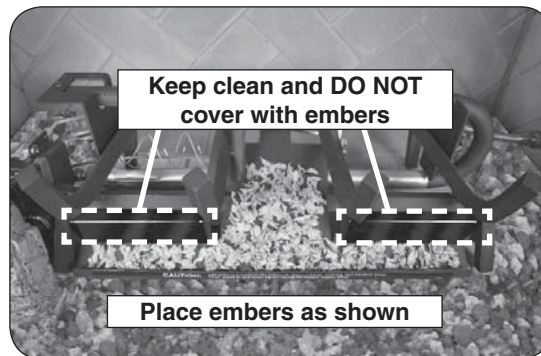

Fig. 20-2 Place glowing embers
1. Place the glowing embers evenly over the entire surface of the ember burner as shown in Fig. 20-2. **Break up any clumps that may have developed during shipment. Store unused embers for later use/replacement.**
Note: Ensure the porcelainized panels are clean of all dust. Use a clean soft cloth if necessary. See Fig 20-2.